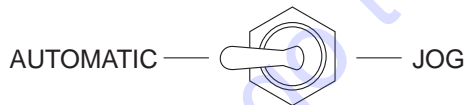

Figure 22. Cylinder Stroke Control Switch (Automatic)
2. Place the **cylinder stroke control switch** in the **AUTOMATIC** position (Figure 22).